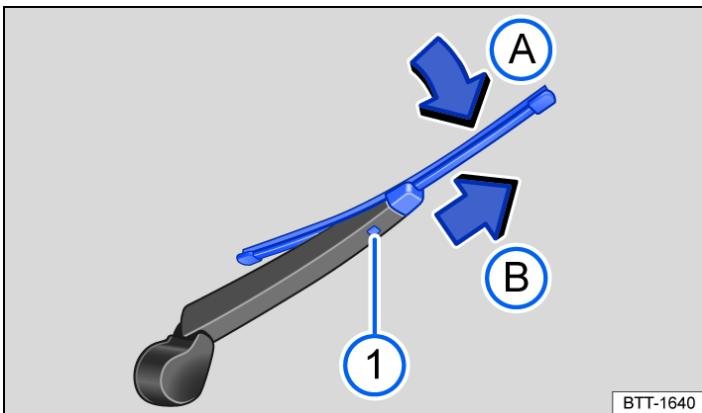

Fig. 2 Changing the wiper blade for the rear window.
- Press and hold the release button → *Fig. 2* (1).